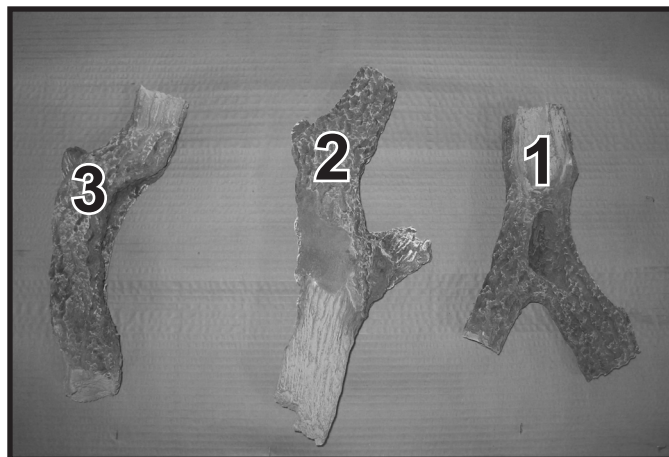
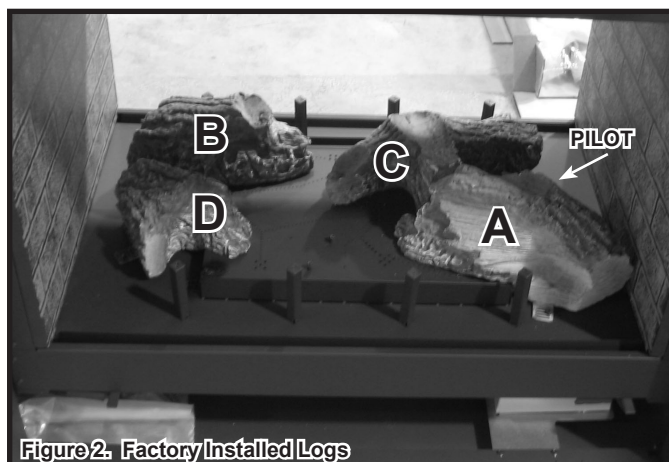

Figure 1. Log Assembly Location
Figure 2. Factory Installed Logs
**STEP 1. CAUTION! Logs are fragile!** Carefully remove the logs and cardboard tray from the inside of the fireplace. See Figure 1. Remove the microfoam and inspect the logs for damage. Inspect the four factory installed logs for damage. Locate the pilot in order to verify your position in relation to the appliance. See Figure 2.